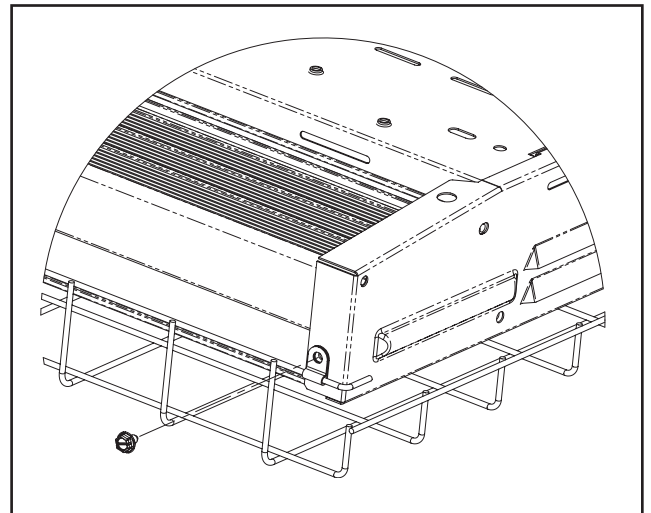

Figure 2.
3. Install and tighten the 4 #10 x 3/8" sheet metal screws through the mounting clips and into the end plate holes as shown in (Figure 2.)